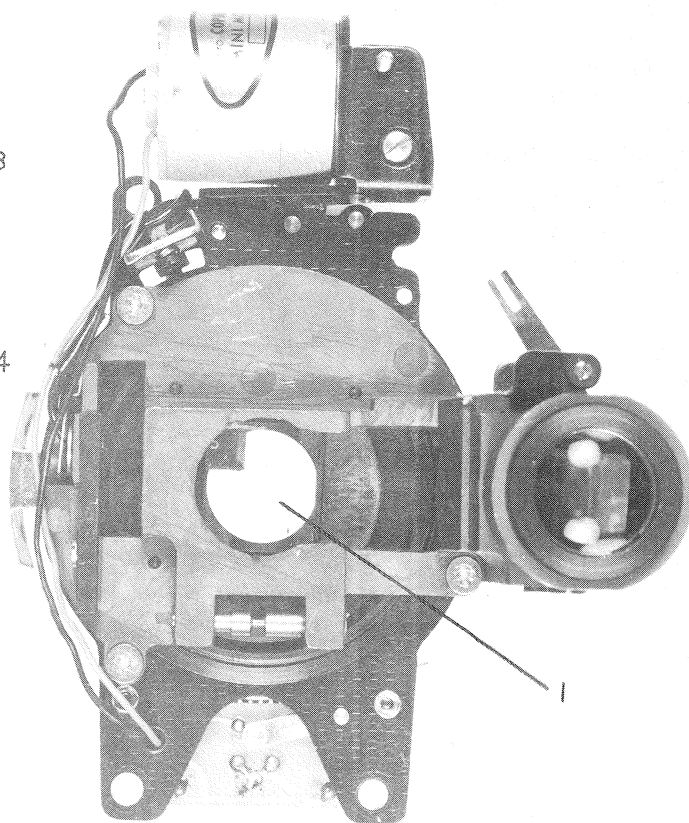

Fig. 13
- b-6. Inspect, clean, remove, and replace the half prism (1 in Fig. 13).